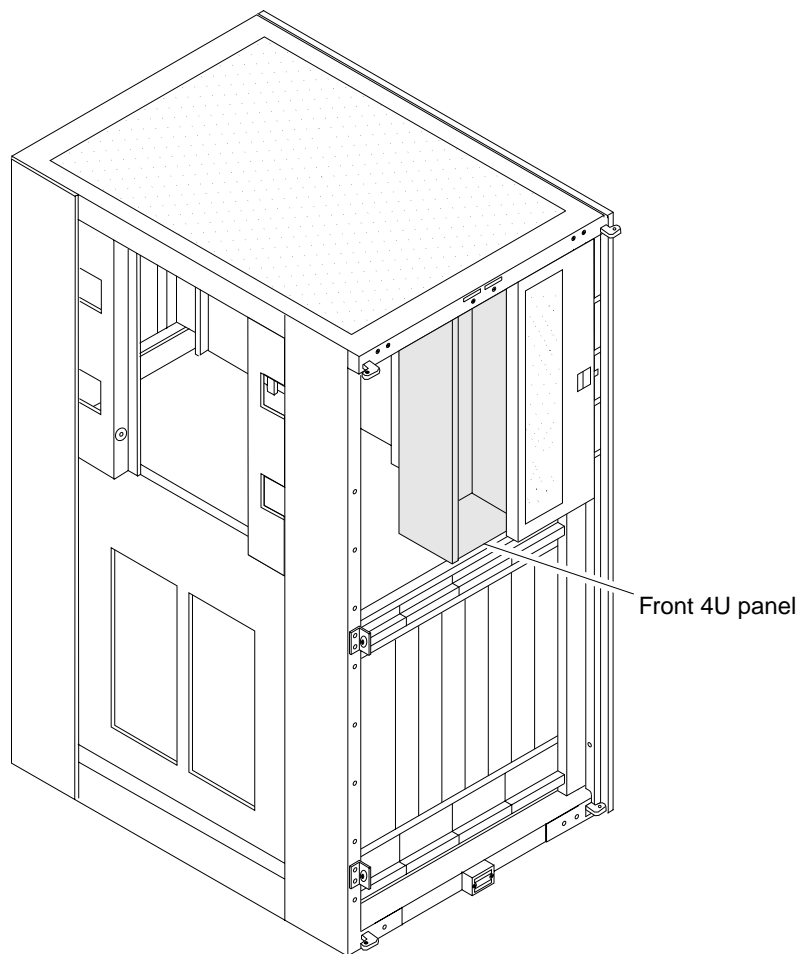

FIGURE 5 Front 4U Panel Installed
1. **Install only the front 4U panel on the RETMA rail near the existing power shelf with 10-32x1/2 screws in holes 8, 23, and 38 (counting from the bottom up). Leave the screws loose (FIGURE 5).**